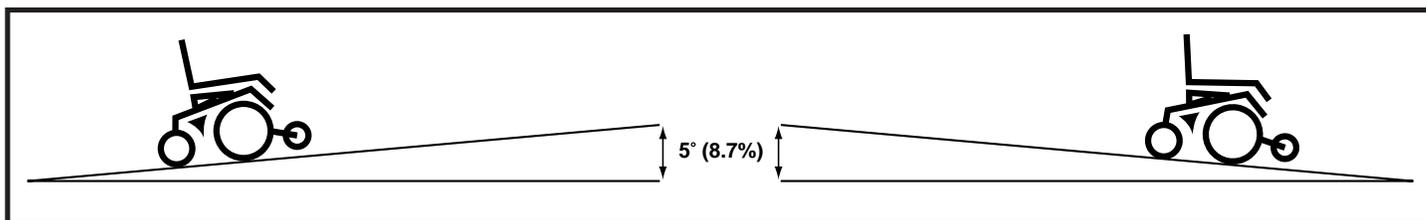

Figure 1. Maximum Safe Slope (Ascending and Descending)
**WARNING!** Even though your power chair is capable of climbing slopes greater than those illustrated in figure 1, do not, under any circumstances, exceed the incline guidelines or any other specifications presented in this manual. Doing so could cause instability in your power chair, resulting in personal injury and/or damage to your power chair.
In compliance with the Americans with Disabilities Act of 1990, all handicap public access ramps are required to have a maximum slope of 5° (8.7%). Therefore, Pride recommends that the maximum slope of an incline you attempt to safely ascend or descend on your power chair does not exceed 5° (8.7%). See figure 1.